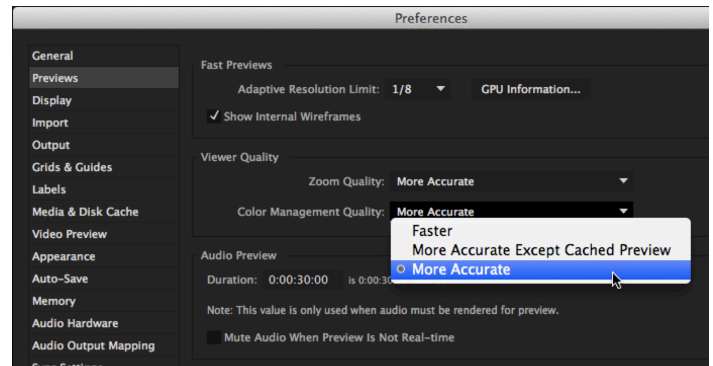

Figure 54
1. Go to Preferences → Previews and set Color Management Quality to More Accurate, as shown in Figure 54.